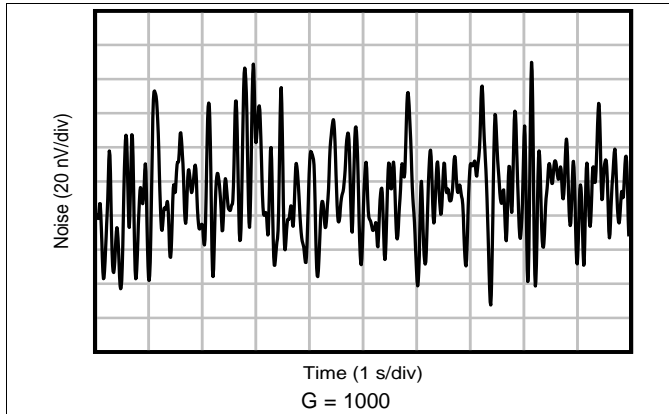

Figure 25. 0.1-Hz to 10-Hz RTI Voltage Noise G = 1000
0.1-Hz to 10-Hz RTI Voltage Noise $G = 1000$	Figure 25